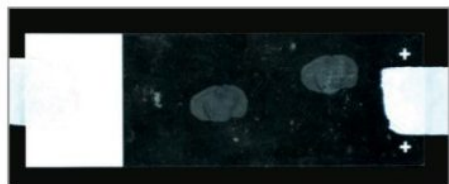

Figure 1a. Take scan or photo of slide.
- Acquisition of an optical image (photograph or flat bed scan) of the sample – typically mounted on a conventional glass slide (Figure 1a).